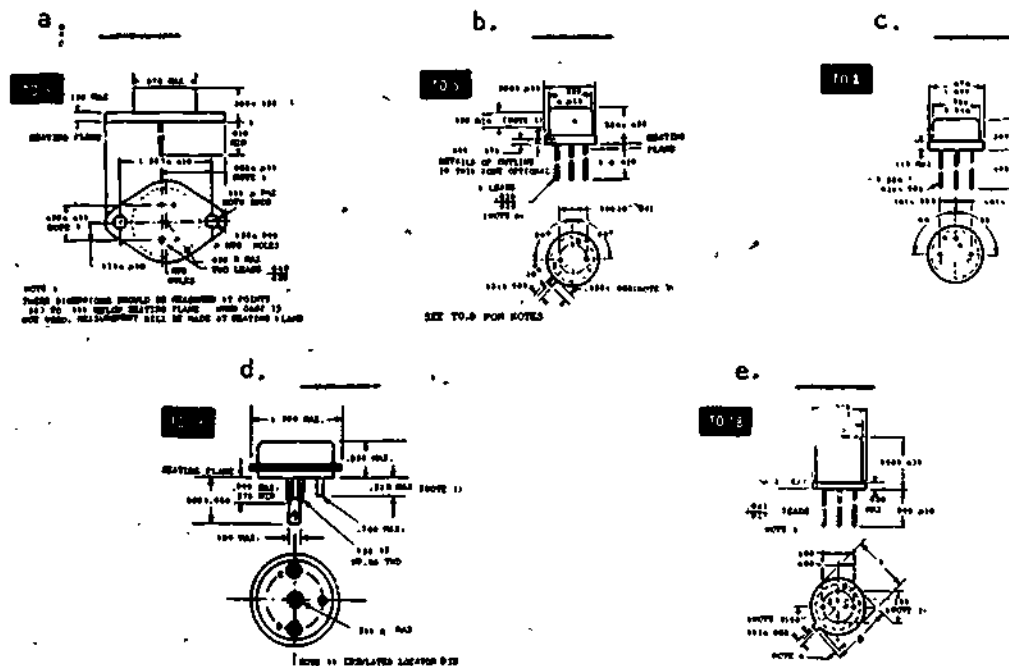

Figure 1
1. Components 30, 31, 32, 33, and 34 are all transistors. Technical drawings of these transistors are shown in figure 1. From these drawings you can determine physical dimensions, identification and placement of the elements (leads), and the shape of container (T02, T03, etc.) in which the transistor is packaged.